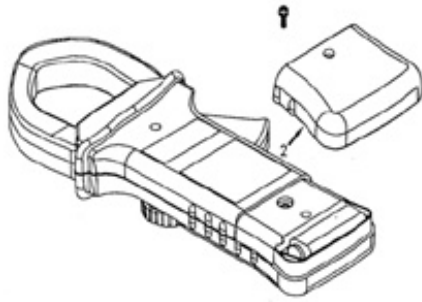

Figure 24. Step 2 of Battery Replacement.
4. Pull the cover up slightly and slide the battery cover off (see Figure 24 and Figure 25).